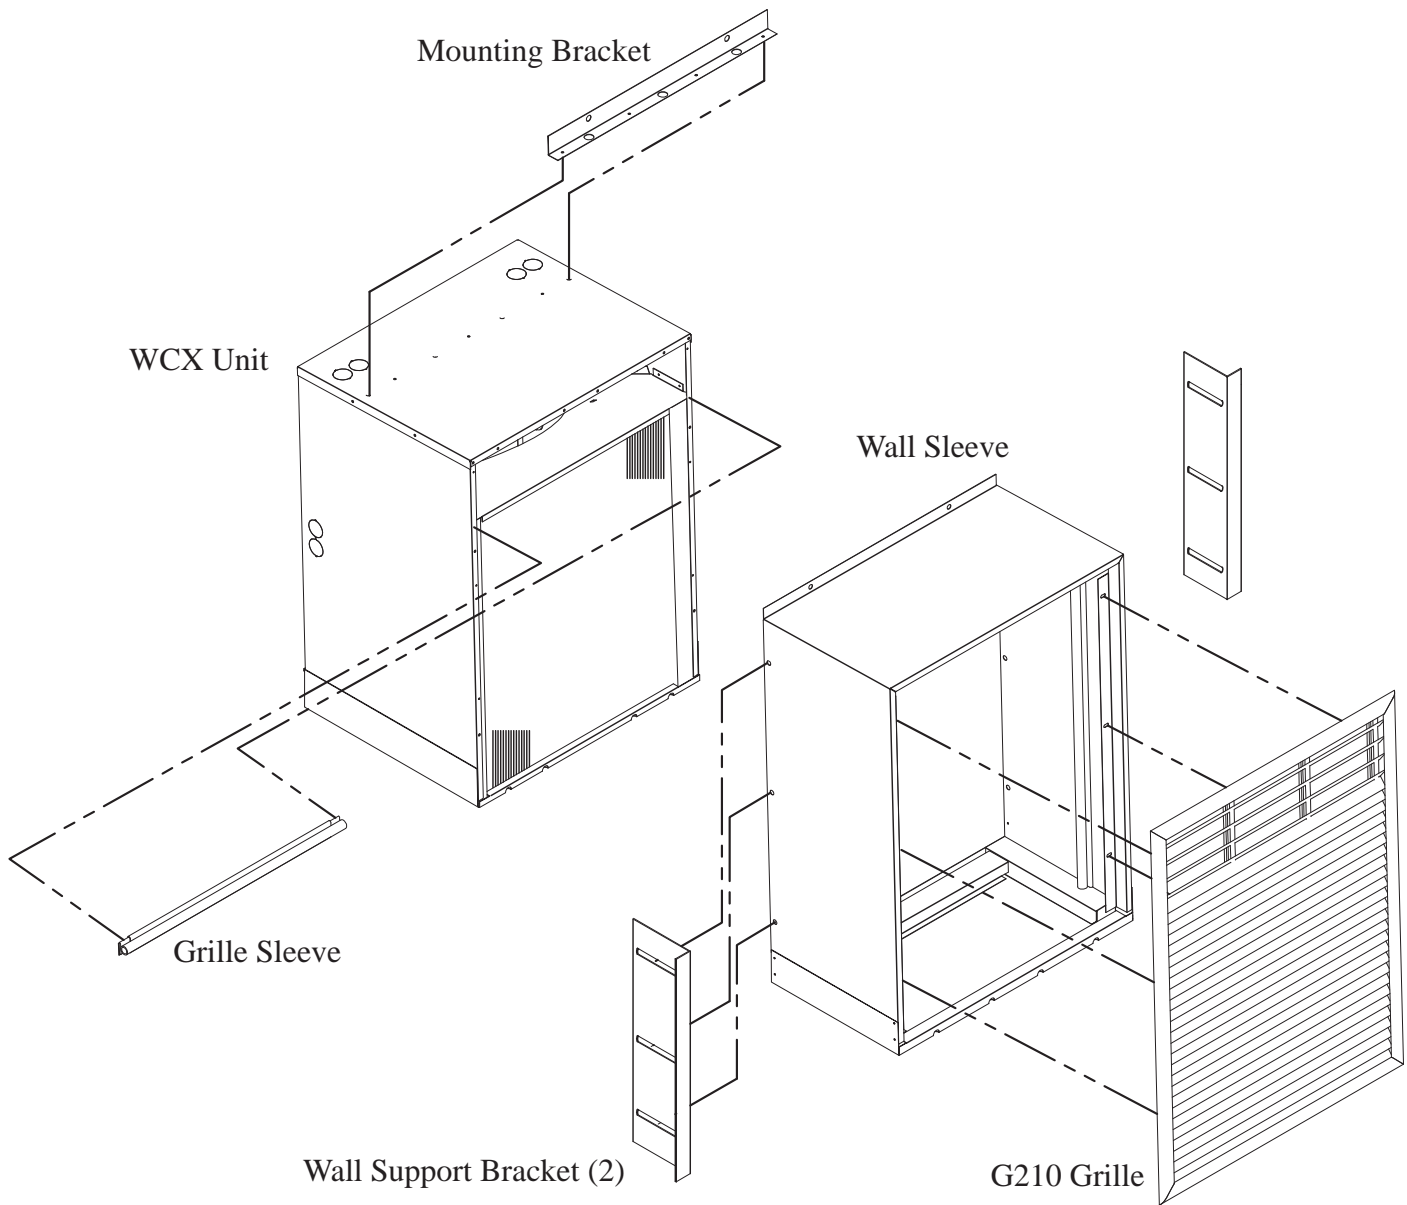

Figure 1
The WCX unit is designed for through the wall installation in a closet with direct access to the rear of the unit (Fig. 1). The exterior (grille side) of the unit must have no obstructions (trees, landscape materials, or building structure, etc.) within 18 inches. Do not locate two units adjacent to each other on an inside corner or anyplace
5. Attach wall support brackets to each side of the wall sleeve as shown in Fig. 1. Adjust brackets so that the flange is in contact with the inner surface of the wall and tighten bolts.
4. Attach the Grille seal to the front of the WCX unit as shown (figure 1) with 2 sheetmetal screws.